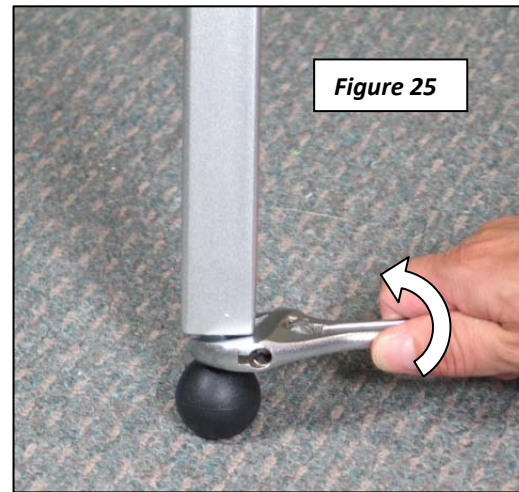

Figure 25
25. Adjust the Center Adjustable Leg by unscrewing the round foot until it makes *firm contact* with the floor surface. Tighten the locking nut after proper floor contact is achieved (Figure 25).